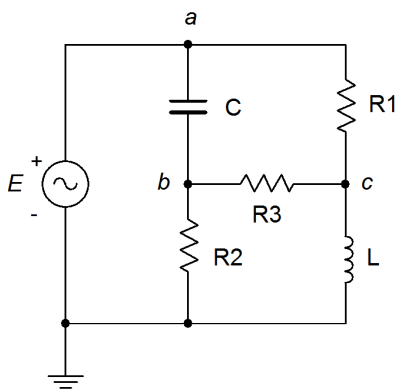

Figure 5.36
62. Find voltage v_{bc} in the circuit of Figure 5.36 through the use of one or more delta-Y conversions. $E = 20\angle 0^\circ$, $R_1 = 1\text{ k}\Omega$, $R_2 = 8\text{ k}\Omega$, $R_3 = 3\text{ k}\Omega$, $X_C = -j4\text{ k}\Omega$ and $X_L = j2\text{ k}\Omega$.